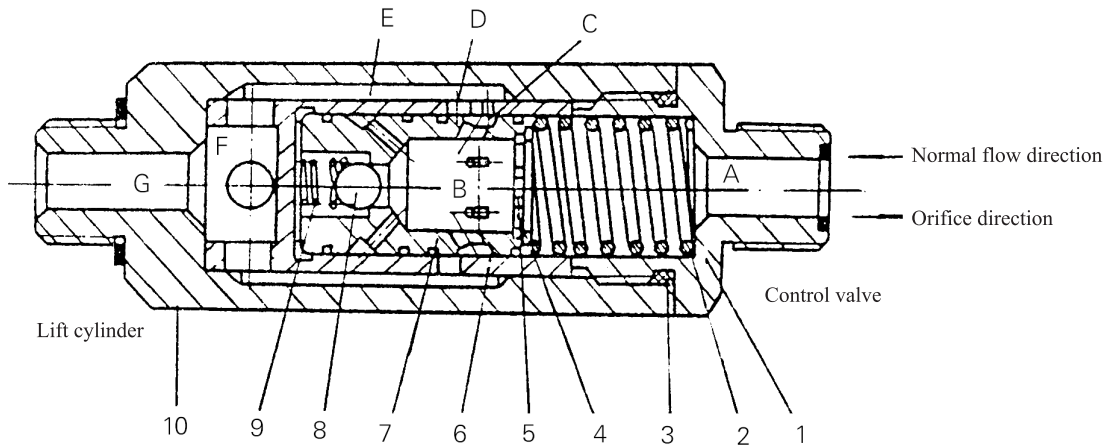

Fig.9-10 Flow regulator valve
The flow regulator valve, located in the lift cylinder circuit to limit the descending speed of loaded forks, has the construction as shown in Fig.9-10. When the lift spool is placed in the “lift” position, the oil from the control valve flows through the oil chambers A and B, oil holes C, D, E and F, and the chamber G to the lift cylinder without any regulation. When the lift spool is placed in the “down” position, the oil flows in the reverse direction. When the oil passes the orifice plate(5) and a pressure difference generates between the chambers A and B, the purssure